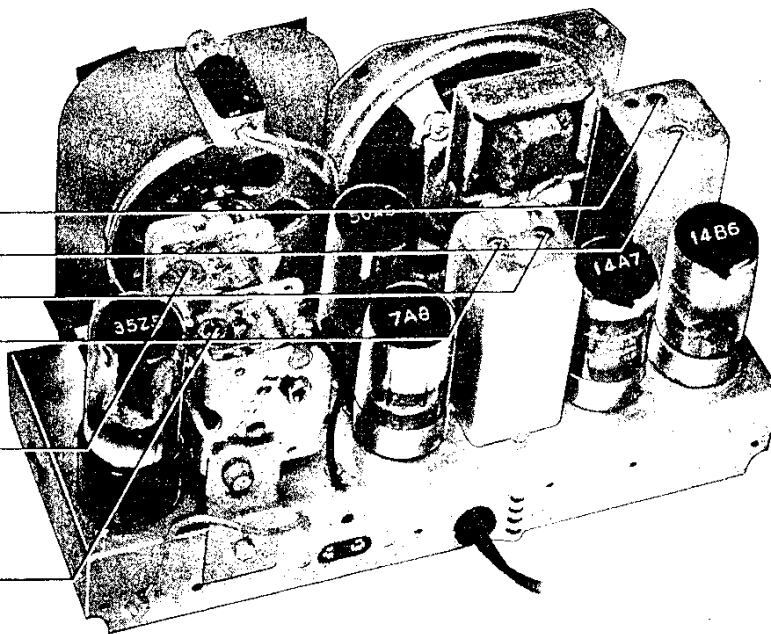

FIGURE 6. TOP VIEW, SHOWING TRIMMER LOCATIONS
**OUTPUT METER** — Connect to left (output) lug and center (chassis) lug of terminal panel, shown in figure 6.